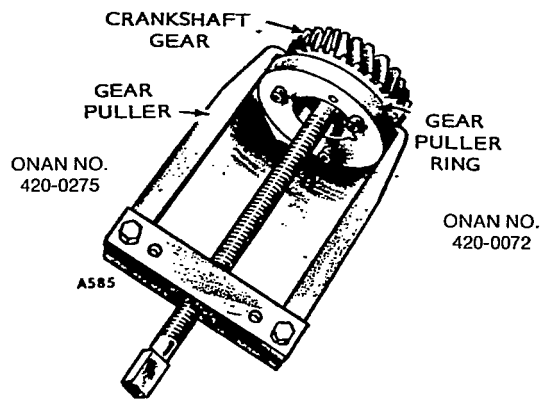

FIGURE 61. REMOVING CRANKSHAFT GEAR
2. Pull off crankshaft gear. It has two 1/4-20 UNC tapped holes for attaching a gear pulling ring. Use care not to damage teeth if the gear is to be reused. See Figure 61.